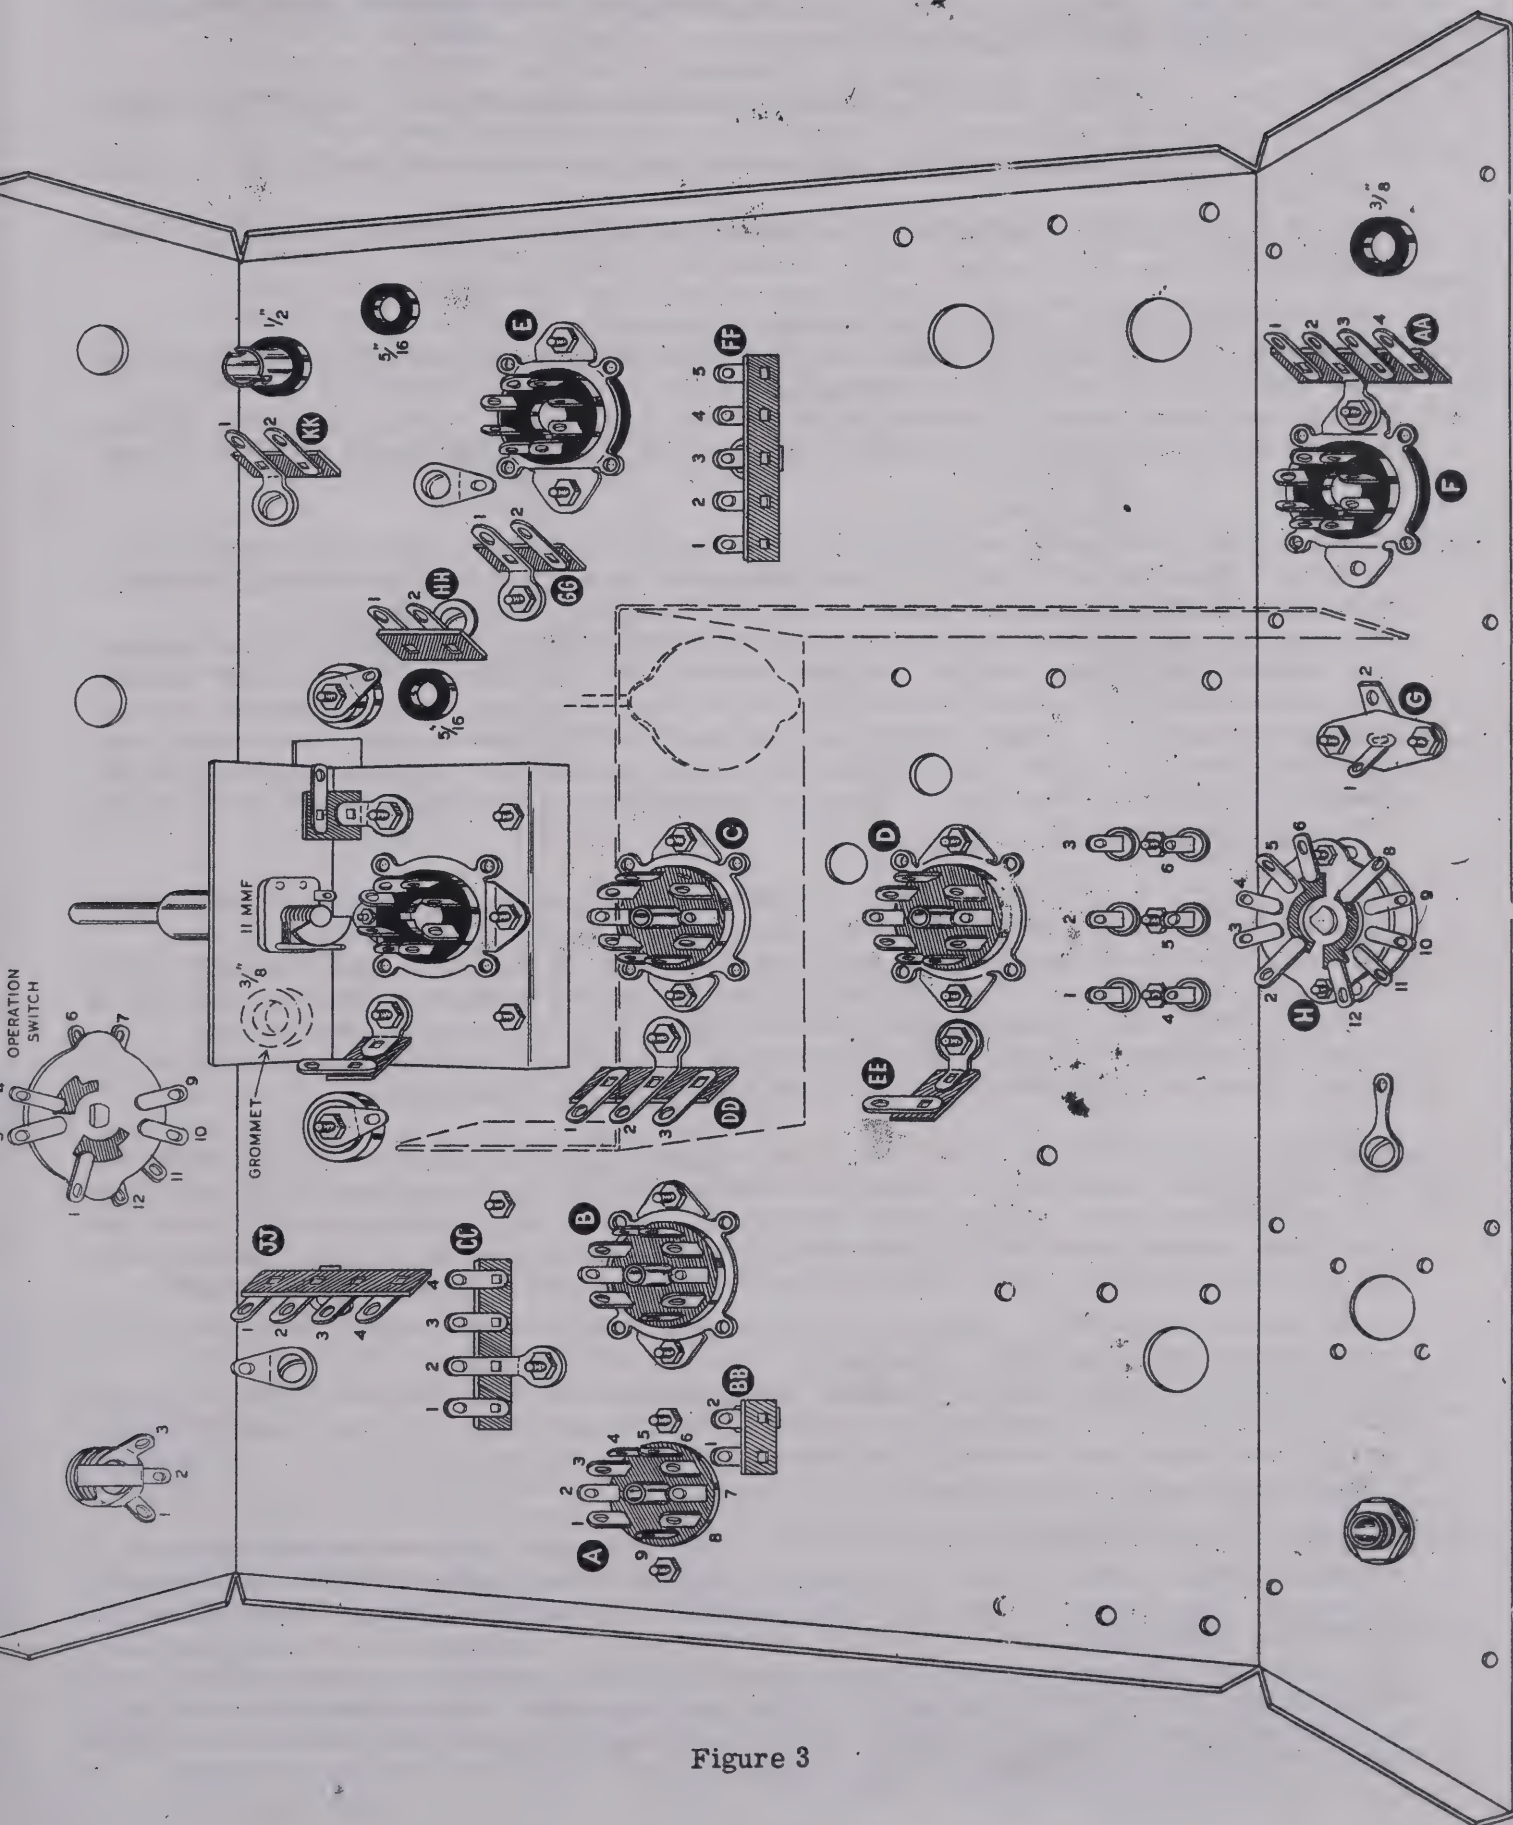
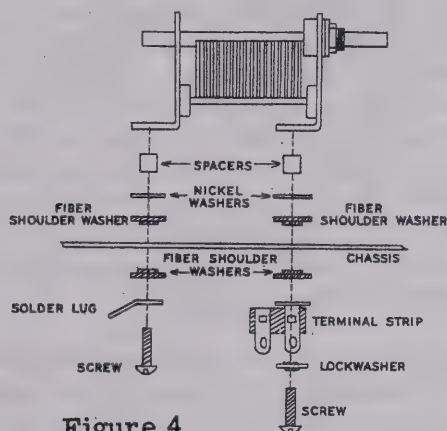

Figure 3
Figure 4
- () Mount a 9-pin miniature shielded socket at hole A, positioning as shown in Figure 3 on Page 8. (This is the socket with the metal cap which mounts from the top of the chassis). Use 3-48 screws and nuts with #3 lockwashers under the nut.
- () Mount 9-pin miniature sockets at holes C and D using the same hardware and positioning the pins as shown in Figure 3. Check the pin locations on the four sockets just mounted before proceeding further.
- () Mount an octal socket and a 4-lug terminal strip AA at hole F on the rear chassis apron. Observe the position of the keyway and use only one mounting screw at this time. See Figure 3. Insert the mounting screw from the outside through the chassis hole nearest the right edge, then through the tube socket flange, through the terminal strip and a lockwasher. Secure with a 6-32 nut.
- () Mount the crystal switch at hole H using a 3/8" lockwasher on the inside of the chassis and a 3/8" flat washer and nut on the outside. Position the switch so the contacts appear as shown in Figure 3.
- () Between sockets A and B, mount 2- and 4-lug terminal strips BB and CC as shown in Figure 3. Use 6-32 x 1/4" hardware.
- () Examine Figure 3 closely and insert two 3/8" rubber grommets, one 1/2" grommet and two 5/16" grommets in the positions shown.
- () Identify final tube mounting bracket and mount the 11 μ f midget variable capacitor through the 1/4" hole on the front of the bracket. Position the capacitor terminals as shown in Figure 3.
- () Install a 6-32 set screw in the 3/16" shaft extension and slip the extension through the small hole in the middle of the front chassis apron on the inside. See Figure 3.
- () Note the four small holes surrounding the large round chassis hole. Using the two nearest the chassis front, insert 6-32 x 1" screws through the chassis top. Place the 3/4" spacers over these screws and mount the tube bracket so the screws pass through the holes nearest the variable capacitor. Place 1-lug terminal strips with lockwashers under the mounting feet over the screws and tighten just sufficiently to hold the assembly in place with the terminal strips facing as shown in Figure 3. Omit the lockwashers under the nuts as the screw length will not permit them.
- () Referring to Figure 3 and Pictorial 3 on Page 22, work the pilot light socket through the 1/2" rubber grommet. Position the socket terminals as shown in Pictorial 3.
- () Mount spade screws on the front side of the final shield plate using 1/4" x 6-32 hardware. The shield plate is mounted on top of the chassis using the two holes about 2 1/2" on either side of the large hole. On the under side of the chassis, use a lockwasher and nut on the spade bolt nearest socket B. On the remaining spade screw, mount a 2-lug terminal strip GG with the lockwasher under the mounting foot and one under the nut. See Figure 3.
- () Cut a piece of red wire 2" long and strip both ends, connect one end to the bottom terminal of the 2.5 mh RF choke (NS).
- () Cut one lead of a .001 μ f 1000 v. disc ceramic capacitor to 1" and connect to the same choke terminal (S). In mounting the choke the red lead passes through the nearby grommet and the .001 capacitor free end is connected to the rotor terminal of the 140 μ f variable tuning capacitor (S). See Pictorial 3.
- () Mount the 2.5 mh RF choke on the chassis top. See Pictorial 3 for position and direction of choke terminals. Mount a 2-lug terminal strip HH under the chassis using the same mounting screw. See Figure 3. The mounting is accomplished in the following order. A 6-32 x 1/2" screw passes through a lockwasher, terminal strip foot, another lockwasher, the chassis, a #6 fiber washer, and the threaded base of the RF choke in that order. Again, care must be exerted to prevent damage to the ceramic material. By inserting your left forefinger through the rectangular chassis hole from above, it is possible to hold both the choke and the terminal strip in place for tightening.
- () Refer to Figure 3 and Pictorial 3 and mount two feed-through insulators through the two 5/16" holes on either side of the rectangular front chassis hole. The gaskets furnished with the insulators should be placed between the insulator and the chassis on both sides. The longer side of the insulator is on top of the chassis.
- () Mount the 2-section variable loading capacitor on top of the chassis in the position shown in Pictorial 3. Refer to Figure 3 and mount a solder lug under the chassis using the screw closest to the chassis edge and a lockwasher on the screw closest to the chassis front. Mount a 4-lug terminal strip JJ at the remaining hole with a lockwasher between the terminal strip and the chassis only. Use 1/4" x 6-32 hardware and align the capacitor squarely with the chassis front edge before tightening the screws.
- () The plate tuning capacitor is mounted on the opposite side at the front of the chassis, using the two 7/32" holes. 6-32 x 1/2" screws, #6 flat washers, insulating shoulder washers and 3/16" spacers are used. The method of assembly is shown in Figure 4 above. On the screw near the front of the chassis, place a lockwasher under the screw head and mount a 2-lug terminal strip KK under the chassis. On the rear screw, mount a solder lug under the chassis. Position as shown in Figure 3. Align the capacitor square with the chassis before tightening the screws. On the capacitor itself, remove the two washers furnished on the capacitor shaft bushing, but replace the nut; it will be used later to hold the panel.
- () Familiarize yourself with the layout including the cutout points for wires to enter or leave the compartments formed by the switch bracket and oscillator shield. Be sure the space enclosed by these units have been marked on the chassis and make a rough sketch on Figure 3 of the switch wafer positions. Then remove both assemblies.
- () Mount the operation switch on the front chassis apron and position as shown in Figure 3, using the switch contacts as a reference point. Place a lockwasher behind the chassis apron and a flat washer and nut in front. Tighten nut just sufficiently to hold for wiring.